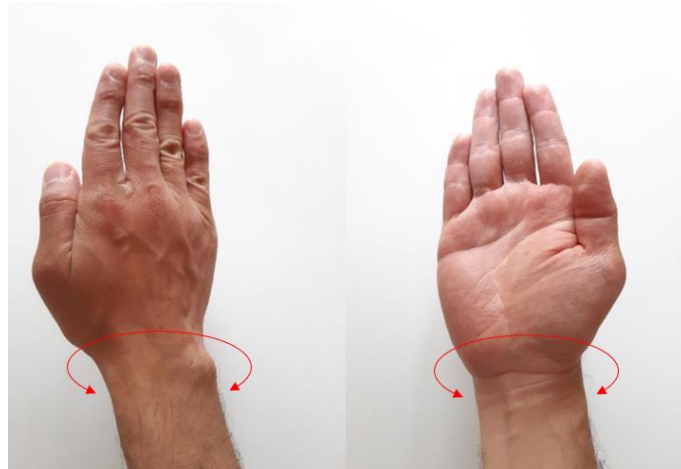

Figure 2.1: 1st degree of freedom – Pronation / Supination
2. A human wrist has 3 degrees of freedom, as shown in Figures 2.1, 2.2 and 2.3.